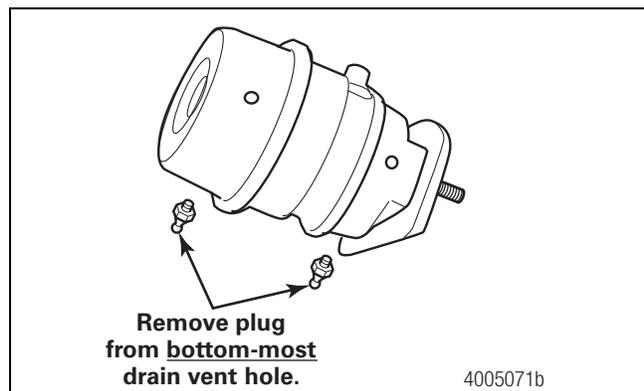

Figure 14
8. If removable breather plugs are supplied with the brake chamber, locate the bottom-most breather plug and remove it from the chamber. Figure 14.